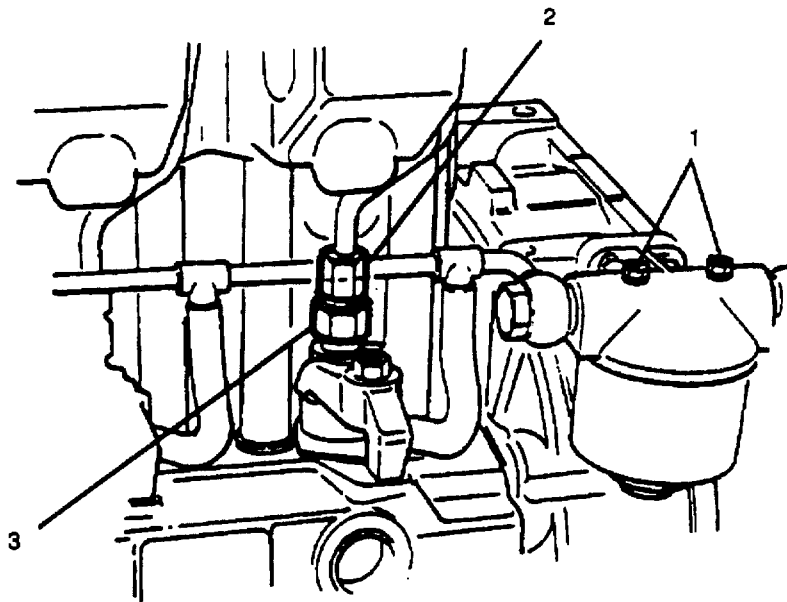

FIGURE 3-5. Priming Fuel System
- a. Loosen two screws (1, FIGURE 3-5) on fuel filter to allow air to escape. Tighten screws.
- b. Loosen injector fuel pipe (2) at fuel injection pump.
- c. Loosen delivery valve holder (3) on fuel injection pump up to a quarter of a turn until no air bubbles are expelled.
- d. Tighten delivery valve holder (3) using 17 mm crowsfoot wrench to 35 ft-lbs (47.5 NM).
- e. Tighten injector pipe nut (2) to 21 ft-lbs (28.5 Nm).